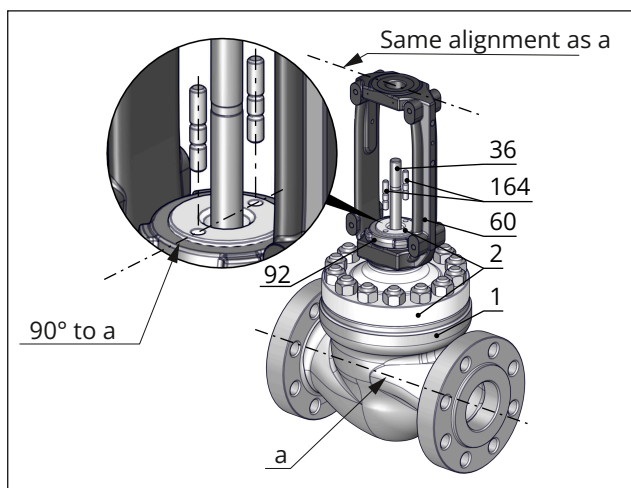

Fig. 26: Alignment of bonnet on the valve body and alignment of yoke on the bonnet
4. Place the yoke (3) on the bonnet in such a way that the two holes on the top of the bonnet are aligned with the open sides of the yoke (see Fig. 26).
5. Fasten the yoke (3) using the castellated nut (92).
- a) Place the packing flange (162) over the studs (164) of the valve bonnet (2/21) on the packing follower (8).
- b) Thread the two packing nuts (163) (including disk springs when packing flange is loaded by external spring elements) onto the studs (164) and finger-tighten them. In the version with spring-loaded packing, the packing nuts (163) must be guided through the holes in the packing flange.